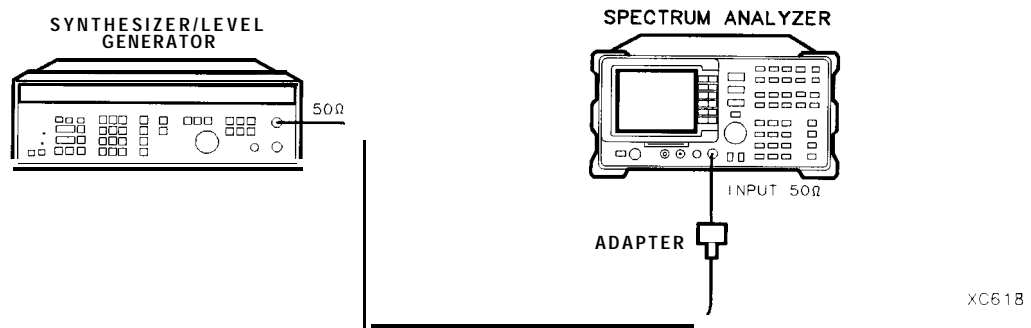

Figure 2-29. Frequency Response **Test Setup, <50 MHz**
18. Using a cable, connect the frequency synthesizer directly to the INPUT 50  $\Omega$ . Refer to Figure 2-29.